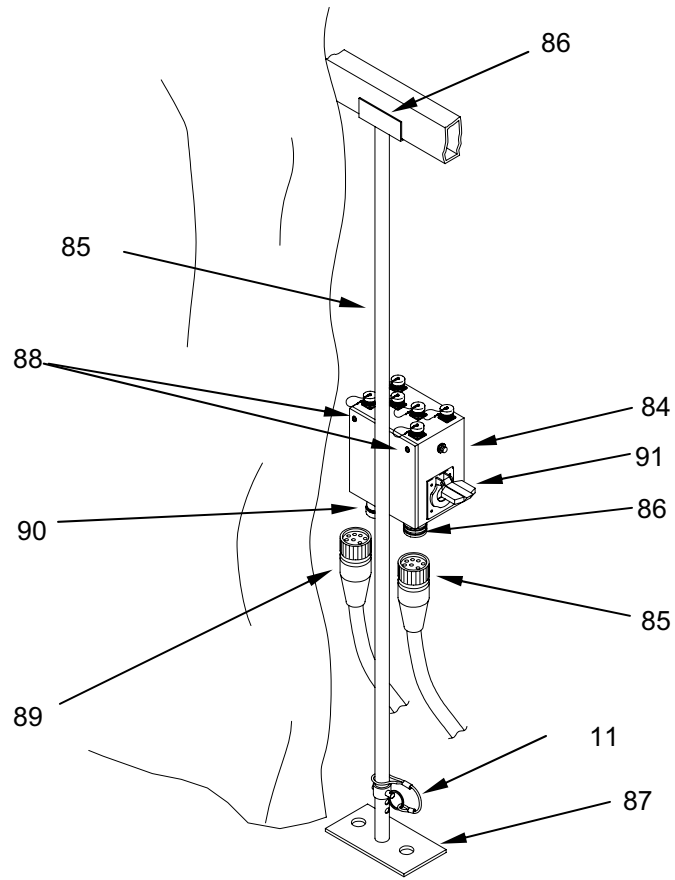

Figure 37. Install Electrical Cables and Convenience Outlets.
9. Connect the 60 A power input cable (**Figure 37, Item 85**) from the CBL power input panel to the power input connector (**Figure 37, Item 86**) on the TEMPER distribution box (**Figure 37, Item 84**).
10. Connect the ASH to any 120 VAC outlet (**Figure 37, Item 91**) either on the distribution box or the TEMPER convenience outlets.